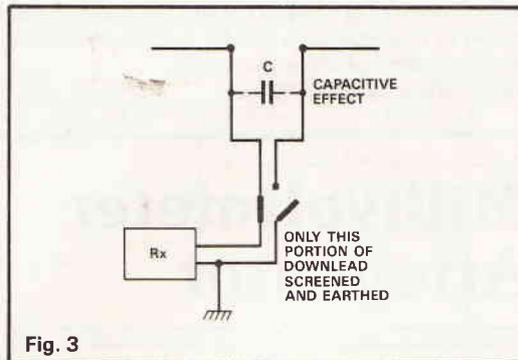

Fig. 3
The device is simply a convenient method of switching the download so that the entire screening braid is either used to complete a normal dipole arrangement (Figure 2) or is broken so that most of the braid and the dipole arms become one 'long wire' aerial (Figure 3). A linking capacitive effect (C) is provided by the insulated gap between the inner and outer conductors of the coaxial download.